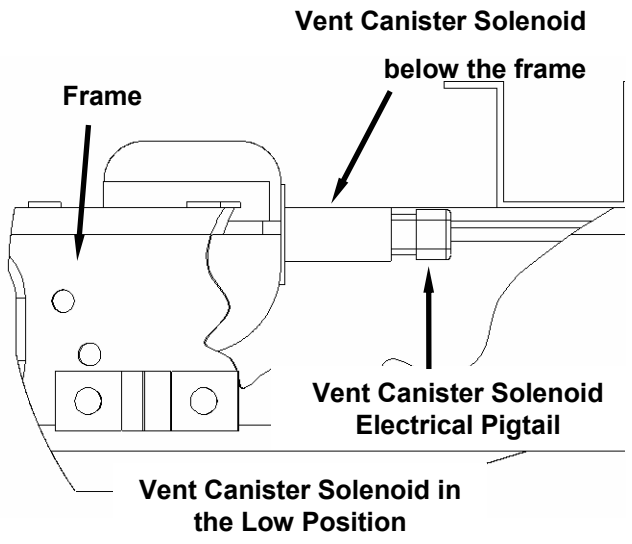

Figure 13B
Step 7: If the Vent Canister Solenoid is in the the Low position (Figure 13B) skip to Step 8 of this instruction sheet. Otherwise, unplug the Vent Canister Solenoid Electrical Pigtail from the Vent Canister Solenoid. Unbolt the Cross member from the frame using a 10mm socket and push the Cross Member rearward.